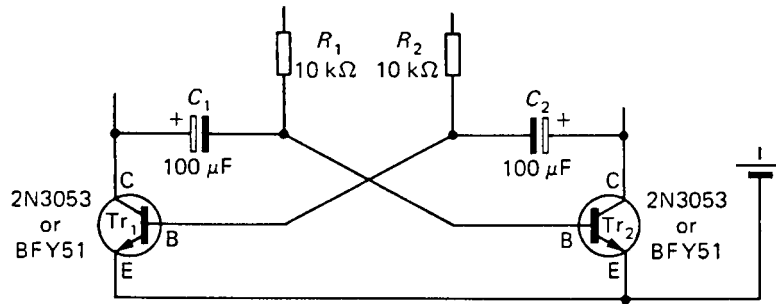

FIG. 6
(i) Complete the circuit diagram for the rear bicycle light which is commenced in Figure 6. Use correct circuit symbols and component values.
- (iii) Name FOUR different components in the completed Figure 6 that are polarised.